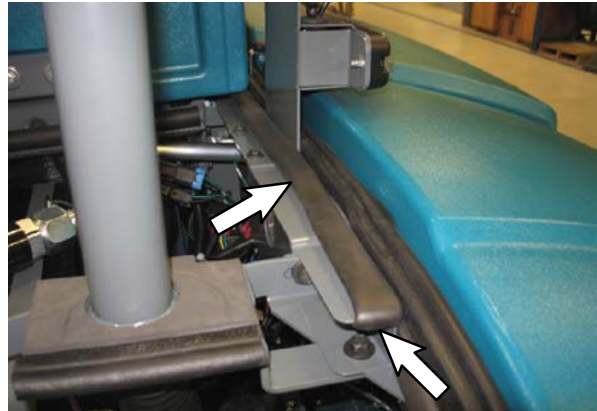

FIG. 19
20. Install the 610 mm (24 in) bulb seal (10) onto the support brace and high rise channel (12). Loop a small portion of the bulb seal around and under the top edge of the high rise channel. Refer to Fig. 19.